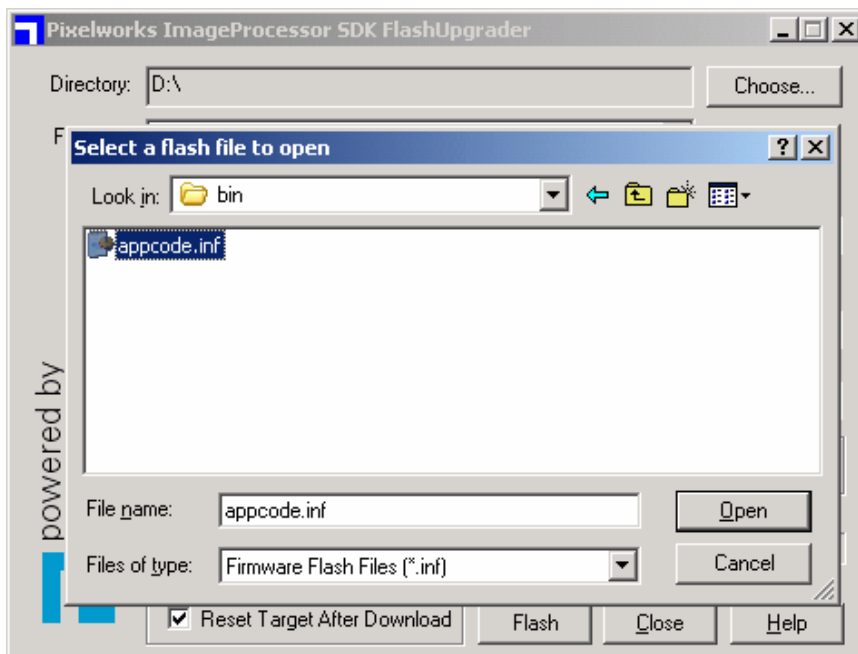

Figure 3
Horizontal & Vertical Thickness Pattern (Figure 3)
(5) Select “Choose” in the FlashUpgrader dialog box, as shown in Figure 3, to browse for the appropriate appcode.inf file.
- 1.4 Put the LCD TV on the bottom cushion. (Figure 3)
(Figure 3)